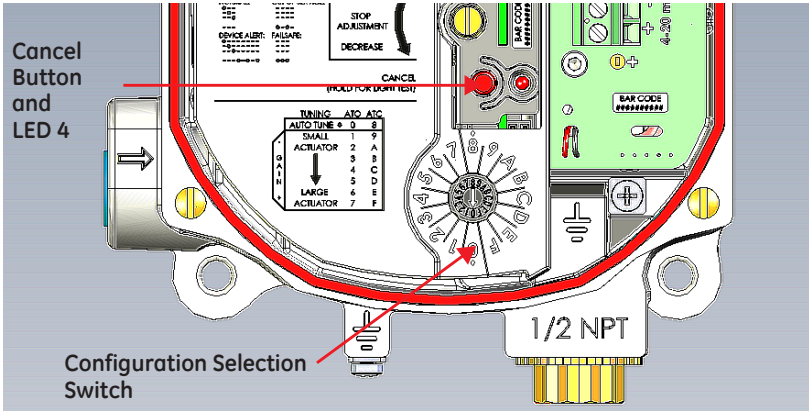

Figure 23 Configuration Selection Switch
- Use the *Configuration Selection Switch* to select a preset tuning value (Figure 23).